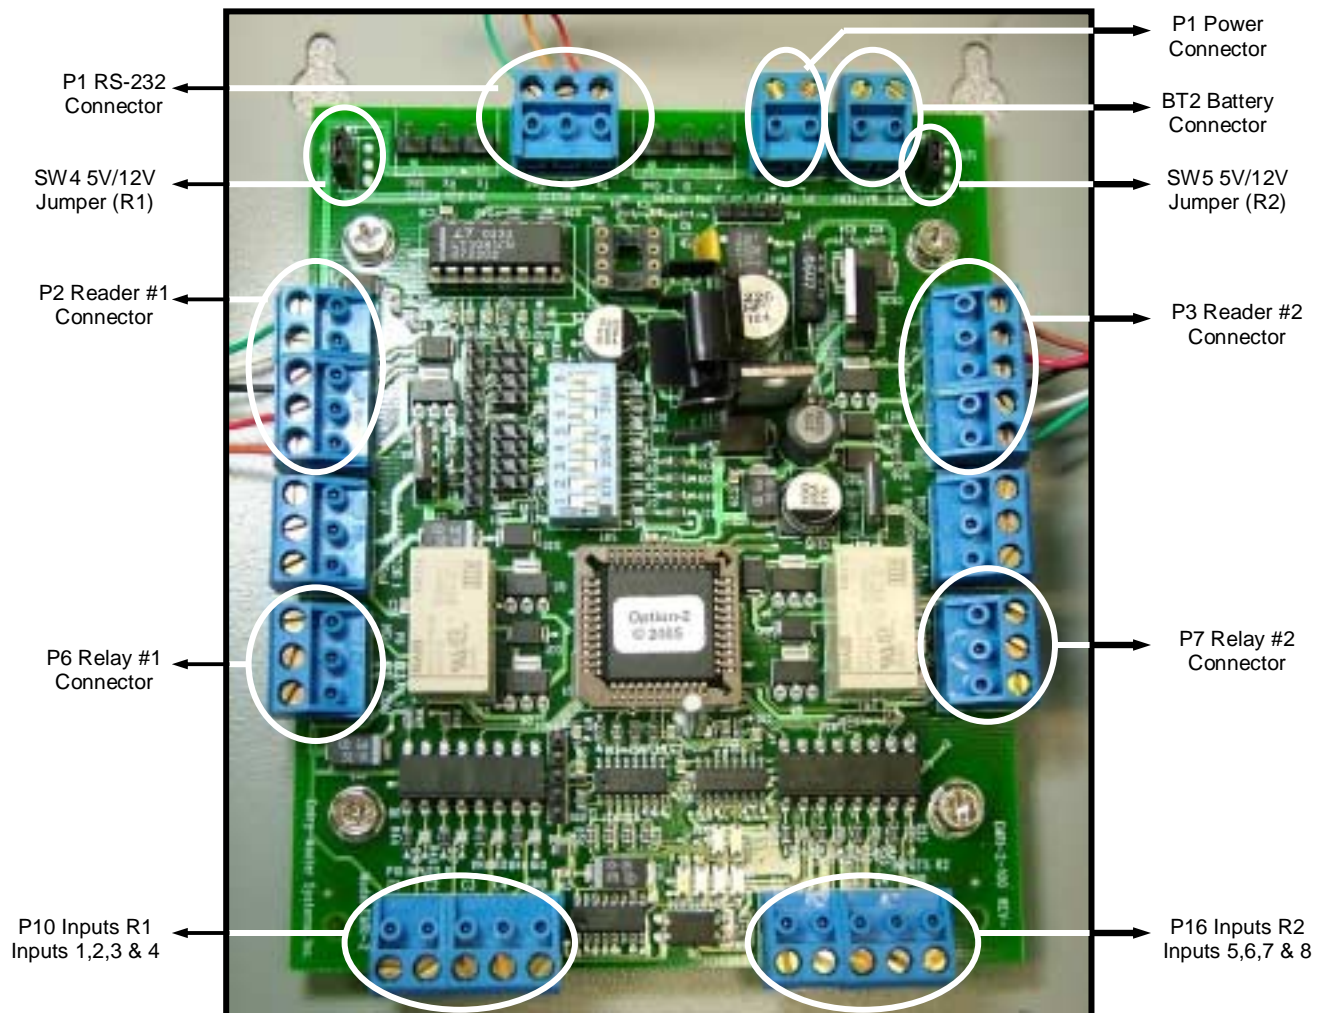

Figure 1. Option-2 Circuit Board
- iii. A set of two (2) enclosure keys.
3. The Option-2 board is capable of controlling two (2) doors using proximity or wiegand-type card readers.
7. Refer to **Figure 1** below for connecting devices to the Option-2 circuit board:
2. To the right of the **BT2 Battery** blue connector you will see three poles labeled **SW5**. At the opposite corner of the board you will see three poles labeled **SW4**. **SW4** enables selection of the power required for *Reader 1* and **SW5** enables selection of the power required for *Reader 2* (see **Figure 1** on page 2).
1. The Option-2 circuit board has two (2) connectors for *Inputs*; inputs are used to monitor doors that may have been propped open, opened without a card, or simply as a **Request to Exit**, also known as a **REX** button or switch, which allows a person to unlock a door from somewhere other than at the door (i.e. a receptionist could press a button under the desk to allow entry through the front door).
2. The connectors are labeled **P10 INPUTS R1** and **P16 INPUTS R2** (see the figures below, and also **Figure 1** on **Page 2**):